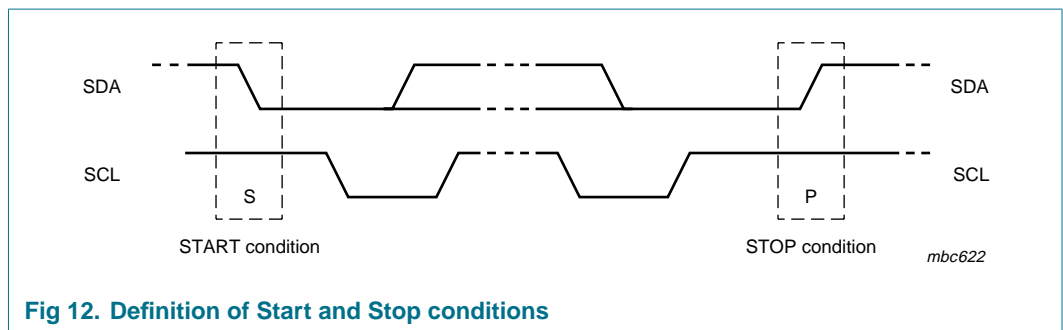

Fig 12. Definition of Start and Stop conditions
Both data and clock lines remain HIGH when the bus is not busy. A HIGH-to-LOW transition of the data line while the clock is HIGH is defined as the START condition (S). A LOW-to-HIGH transition of the data line while the clock is HIGH is defined as the STOP condition (P), (see Figure 12).